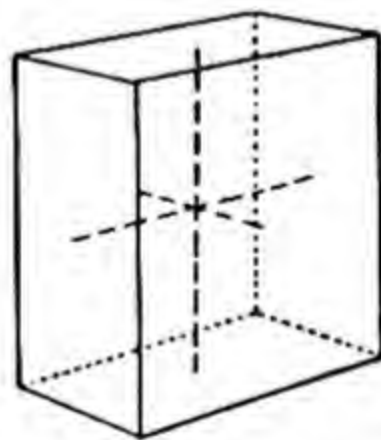

Fig. 36. Rhombic.
3. Rhombic system: three unequal axes, all at right angles (Fig. 36). Examples: sulfur, zinc sulfate heptahydrate, magnesium sulfate, and potassium nitrate.